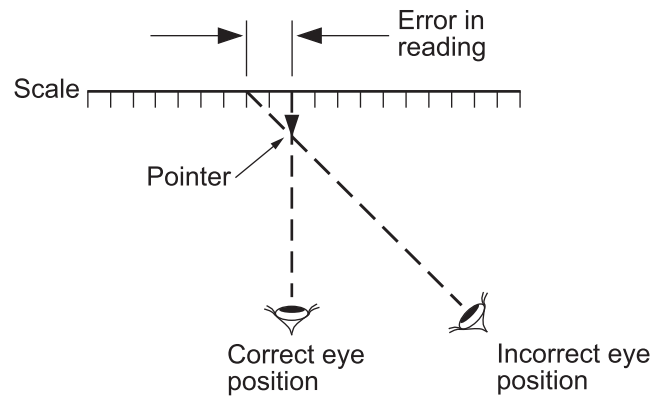

Figure 2—Parallax error
- It is important that you read the meter looking straight at the pointer. Looking at the meter from off to either side will introduce an error in reading known as *parallax error*. See Figure 2. To protect against parallax error, some meters are constructed with a small mirror just below the scale markings. If you look straight at this type of meter face, you will not be able to see the reflection of the pointer in the mirror, because it will be directly behind the pointer.